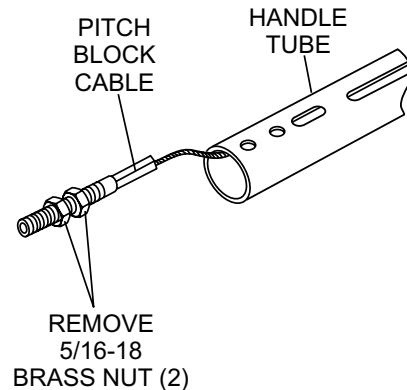

Figure 3. Removing Brass Nuts
3. Remove the two brass nuts from the end of the cable. See Figure 3.